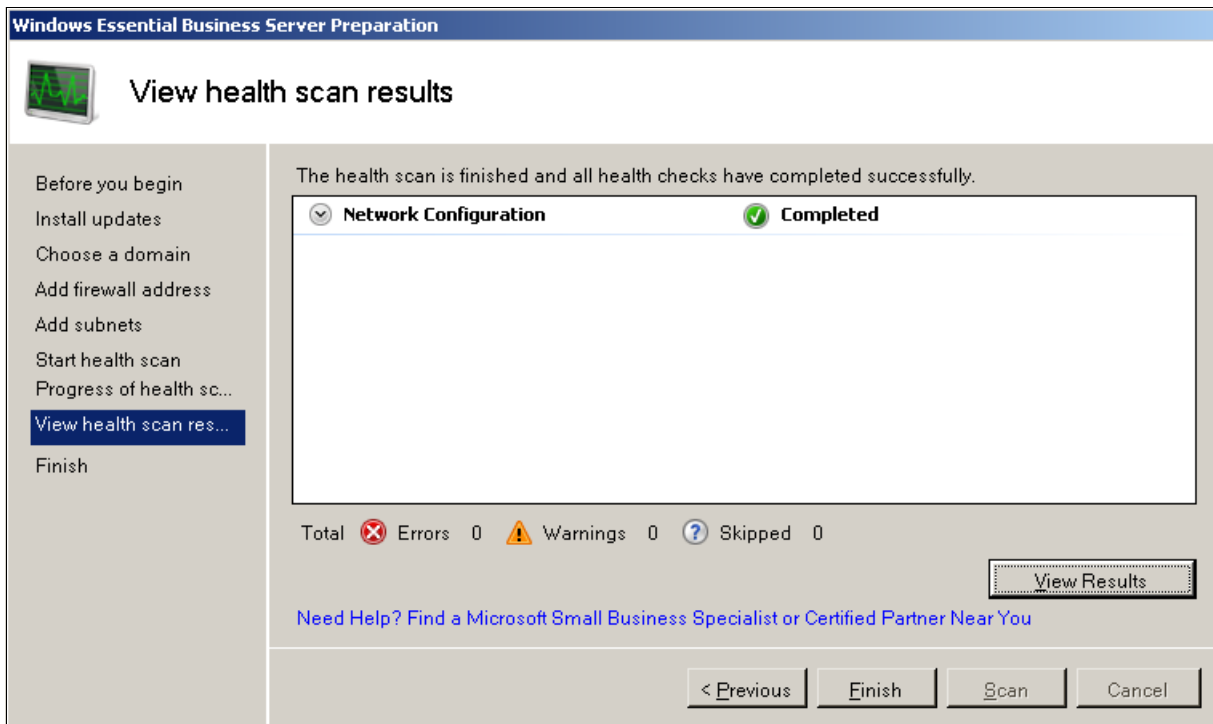

Figure 3-6 Environment health scan results
- The “View health scan results” panel (Figure 3-6) displays the scan results. Issues are listed with a problem description, severity, and links to possible resolutions available on the Microsoft Web site. Click **Finish** if no issues are reported.